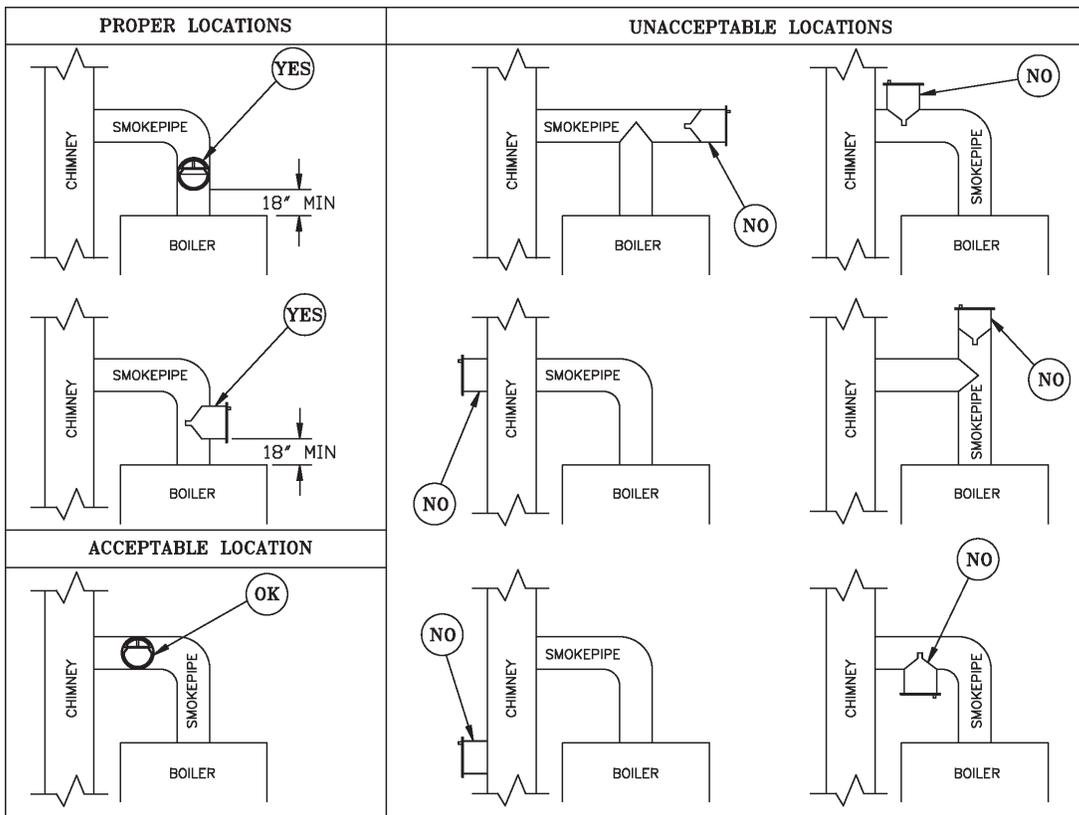

Figure 4-2: Draft Regulator Locations
- a. Install a draft regulator (supplied by installer) following the instructions furnished with the regulator. See Figure 4-2 for alternate regulator locations.